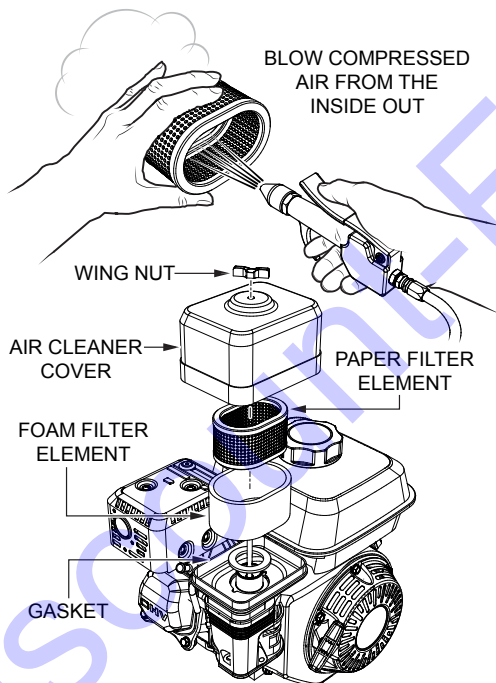

Figure 33. Engine Air Cleaner
1. Remove the air cleaner cover and foam filter element as shown in Figure 33.
2. Tap the paper filter element (Figure 33) several times on a hard surface to remove dirt, or blow compressed air [not exceeding 30 psi (207 kPa, 2.1 kgf/cm2)] through the filter element from the air cleaner case side. **NEVER** brush off dirt. Brushing will force dirt into the fibers. Replace the paper filter element if it is excessively dirty.